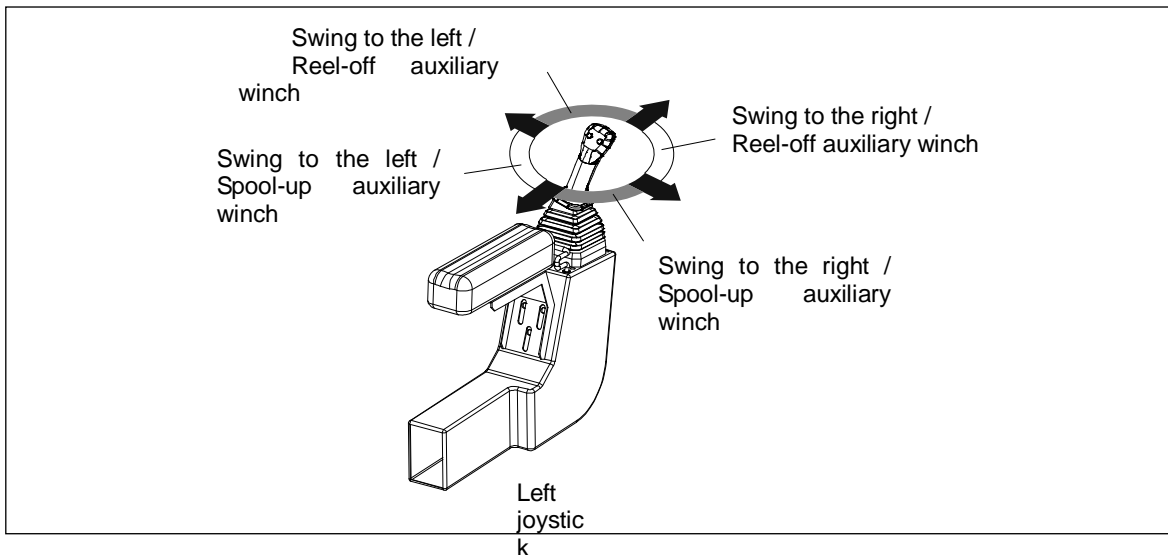

Figure 7-28 Swing + Auxiliary Winch
- (1) You can swing the superstructure to the left or right and move the auxiliary hook up or down at the same time. For this type of move, it is necessary for the operator to move the joystick in two adjacent directions. For example, to swing the superstructure to the right and move the auxiliary hook down, push the left joystick up and to the right (1:30 clock position). Refer to Figure 7-28. The other movements on the left joystick are as follows:
- (2) Push up and to the left (10:30 clock position) – the superstructure swings to the left the auxiliary hook moves down.
- (3) Pull aft and to the right (4:30 clock position) – the superstructure swings to the right and the auxiliary hook moves up.
- (4) Pull aft and to the left (7:30 clock position) – the superstructure swings to the left and the auxiliary hook moves up.